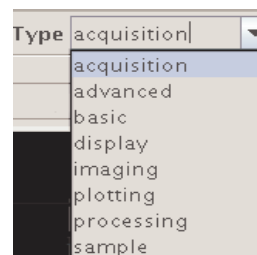

Figure 10. Type Menu
- Select a choice from the **Type** menu, Figure 10, to set the page type.